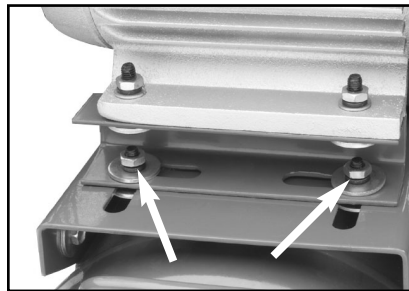

Figure 11. Mounting bolt locations.
1. Remove the belt guard from the air compressor shown in **Figure 11**. The guard is attached to the compressor frame by the two mounting bolts shown in **Figure 11**.